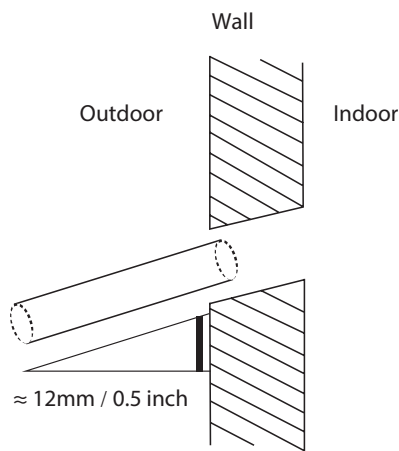

Fig. 6.5
3. Using a 65-mm (2.5") core drill, drill a hole in the wall. Make sure that the hole is drilled at a slight downward angle, so that the outdoor end of the hole is lower than the indoor end by about 12mm (0.5"). This will ensure proper water drainage (See Fig. 6.5). Place the protective wall cuff in the hole. This protects the edges of the hole and will help seal it when you finish the installation process.